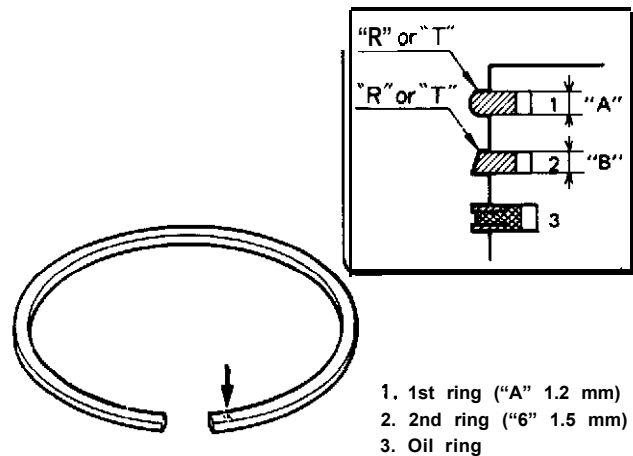

Fig. 3-6-16 Piston rings installation
- As indicated in Fig. 3-6-16, 1st and 2nd rings have "R" or "T" mark. Installing these piston rings to piston with marked side of each ring faced forward top of piston.
- Distinguish 1st ring from 2nd ring by referring to Fig. 3-6-16.